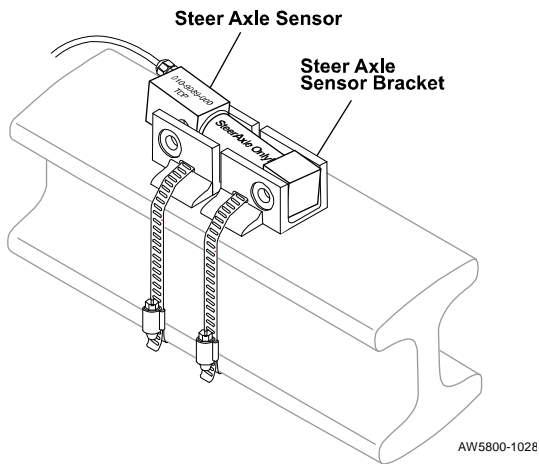

Figure 11. Inserting the Sensor into the Bracket
2. Insert the steer axle sensor with its cable extending towards the side of the vehicle where the sensor extension cable has been routed to the firewall. The "TOP" lettering on the sensor should face UP. See Figure 11.